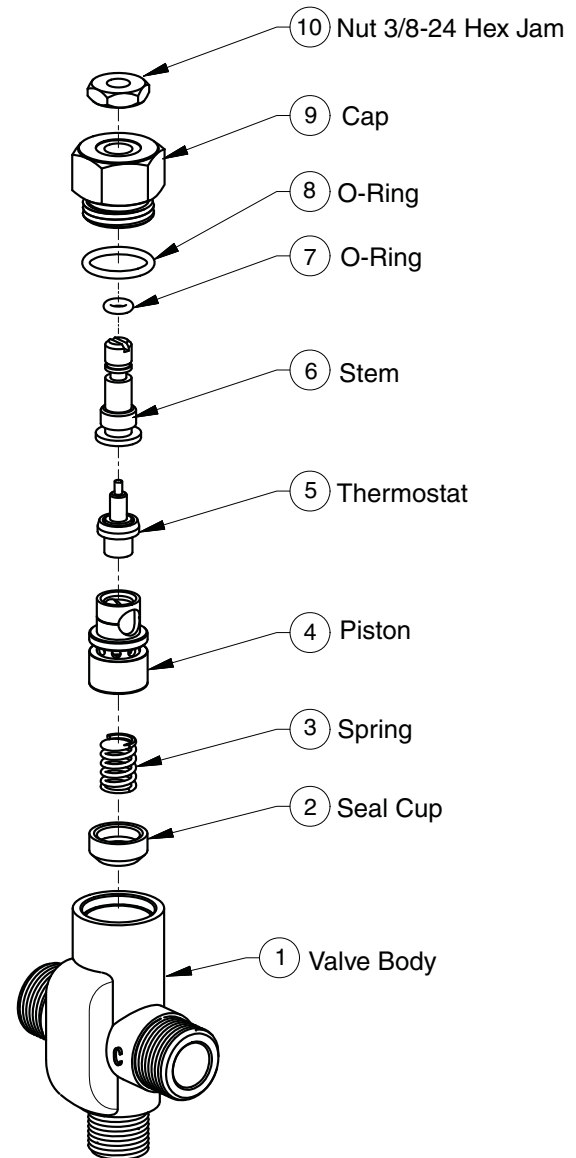

Figure 11
1. Remove the valve's cap and thermostat (see Figure 11 on Page 26).